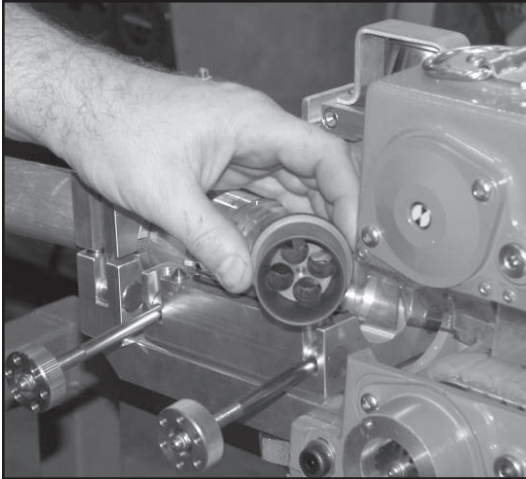

Figure 27
- D. Install Venturi in Air block on the front end of blower. Insert duct thru Venturi. (Figure 27 and 28)